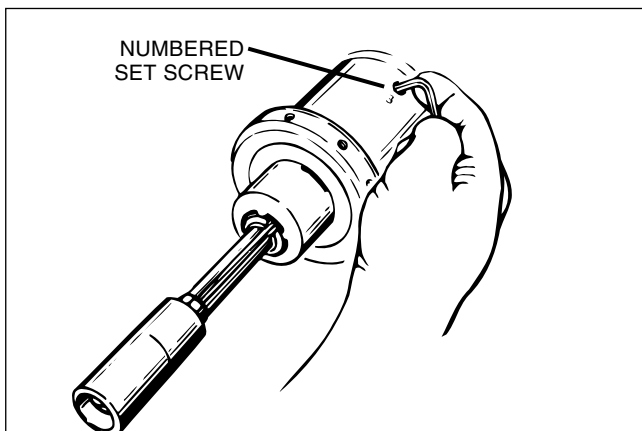

FIGURE 2-7, Numbered Set Screws
7. Loosen numbered set screw on spindle nose that is on same side as high pencil mark and tighten screw on opposite side (see Figure 2-7).